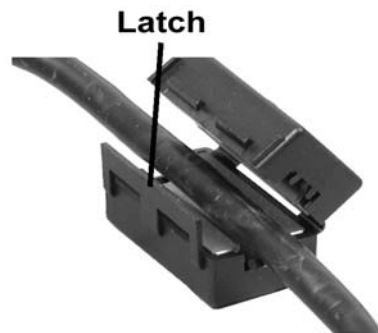

Figure 3-4: Removing the torroid from the LVDS Cable
9. Remove the Rear Customer Display cable, LCD cable and torroid from the clips on the RF shield. Remove the torroid from the LCD cable by releasing the latch as shown in Figure 3-4.